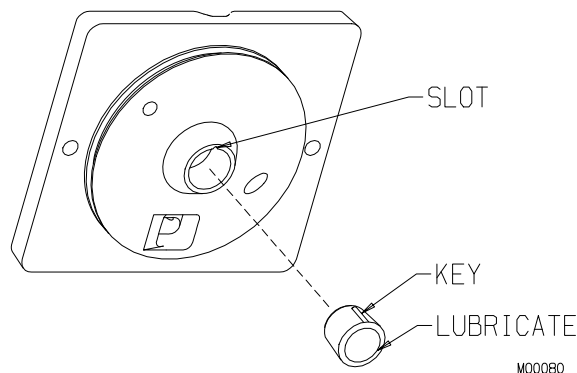

Figure 7-4 Beater Bushing
8. Lubricate the inside surface of the beater bushing (2) and place in the head, making sure to line up the bushing key into the head slot, as shown in figure 7-4.
ALWAYS make sure the head bushing is positioned in the head properly (see Figure 7-4). The head is slotted to match the key on the bushing. Make sure the key aligns with the slot. Failure to install the bushing properly in the dispensing head will damage the head.